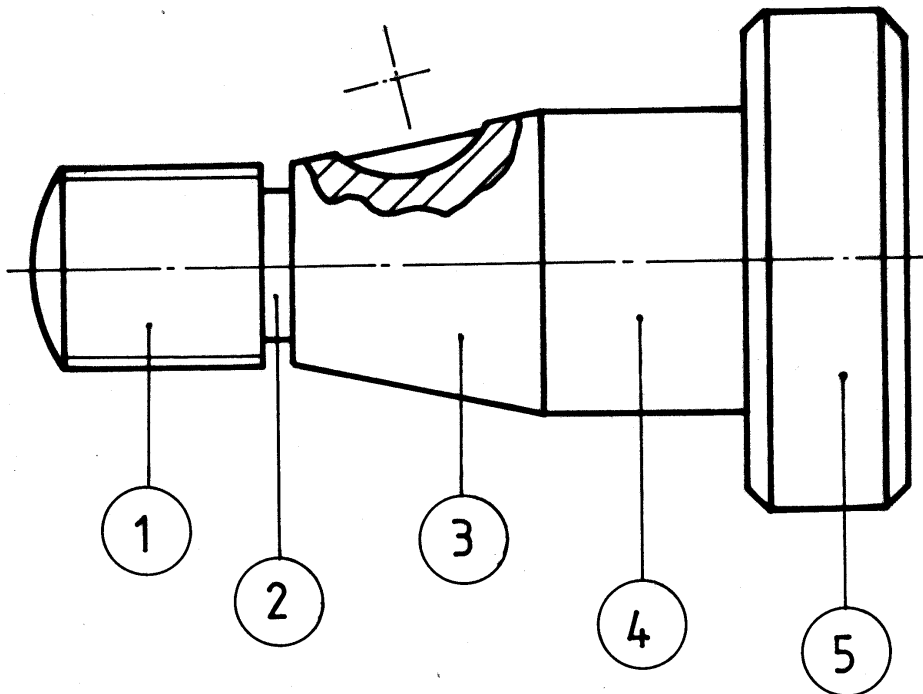

FIG.4
4. (a) Using the data table below, make a fully dimensioned drawing of the machine part in Fig. 4 showing all specifications.